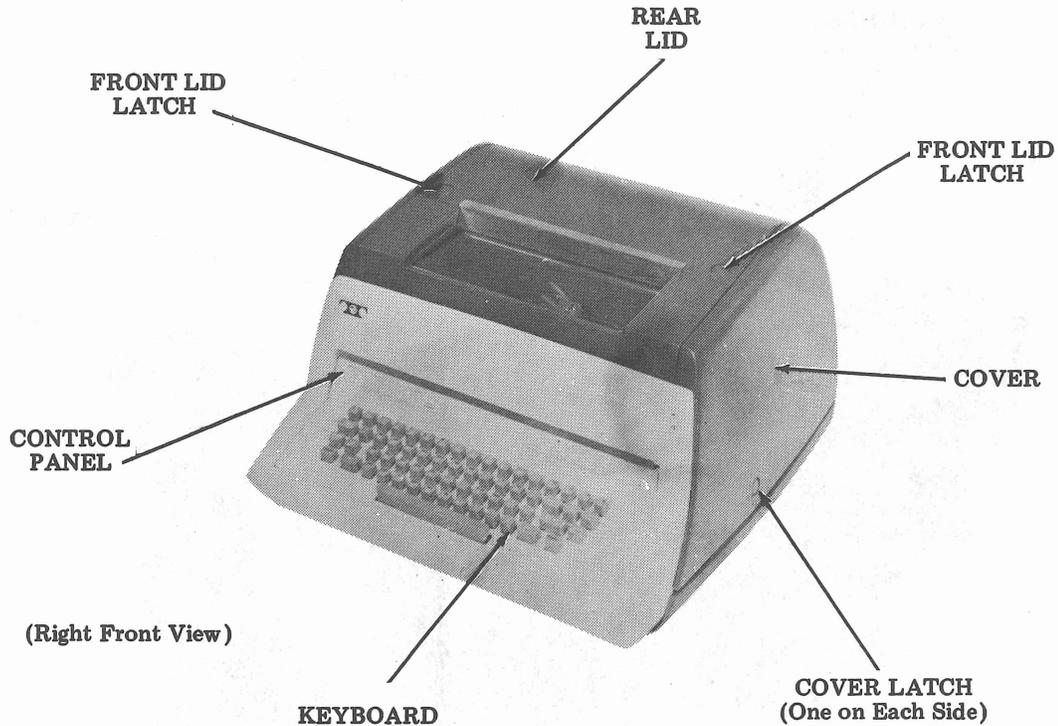

Figure 3 - Keyboard and Cover Assembly
2.05 Open the cover (Figure 3) by depressing the two cover latches (one on each side) and lift the front cover upward. If desired, remove the cover from the pan by the following procedure.